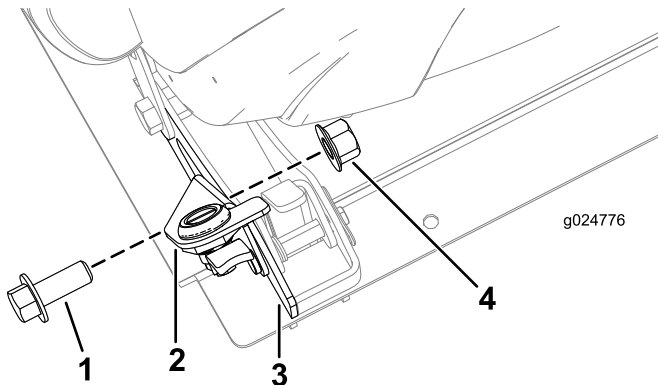

Figure 60
- Secure the lock bracket to the outboard-seat gusset with the hex-head screw (12 x 20 mm) and the locknut (12 mm) as shown in Figure 60.